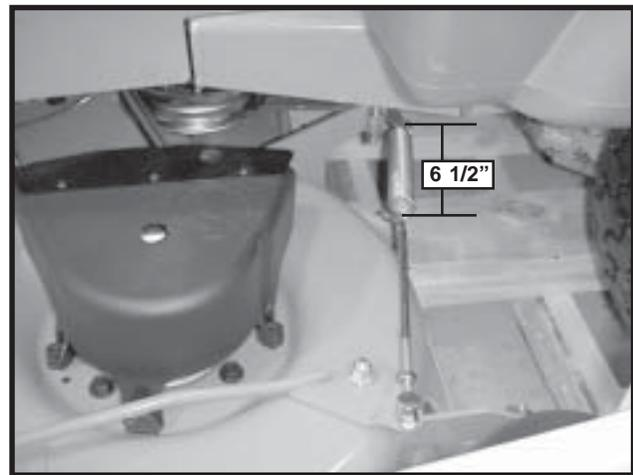

FIGURE 21
11. Adjust the outer nut until the spring measures 6 1/2" from loop to loop. Then lock in place with the inner nut. See Figure 21.